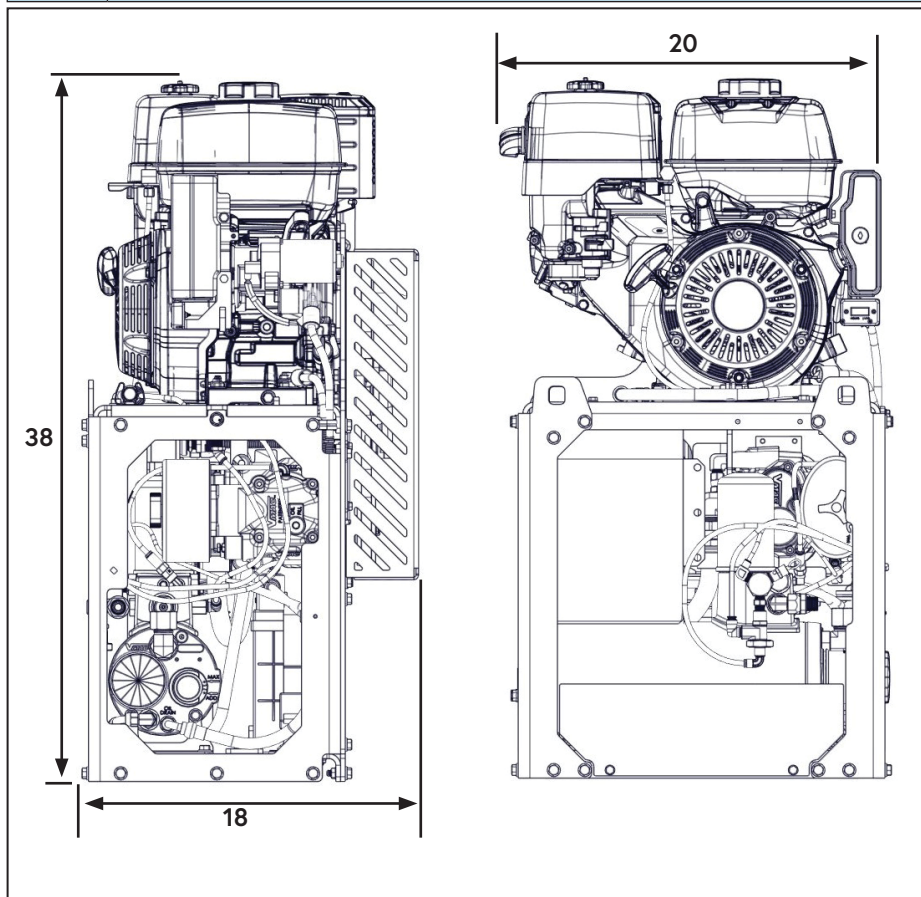

Figure 3 — External dimensions
- Locate a suitable mounting position for the G30. Place the unit in its intended location and check for clearances to any other objects (Figure 3).